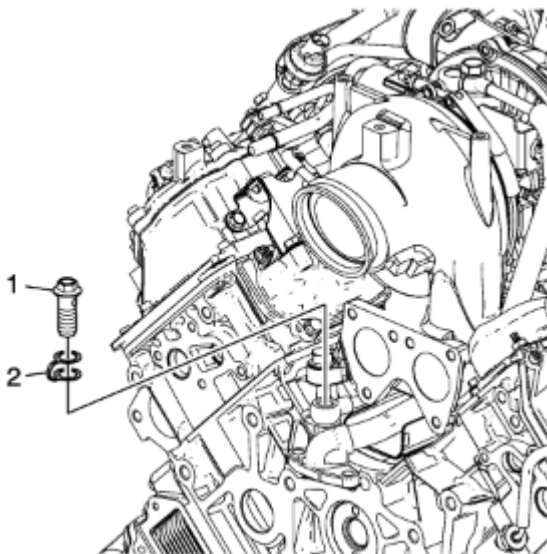

Fig. 117: Turbocharger oil supply banjo bolt installation
- g. Install the oil supply line banjo bolt and washers as shown in figure 117. Torque the banjo bolt to 37 ft-lb.